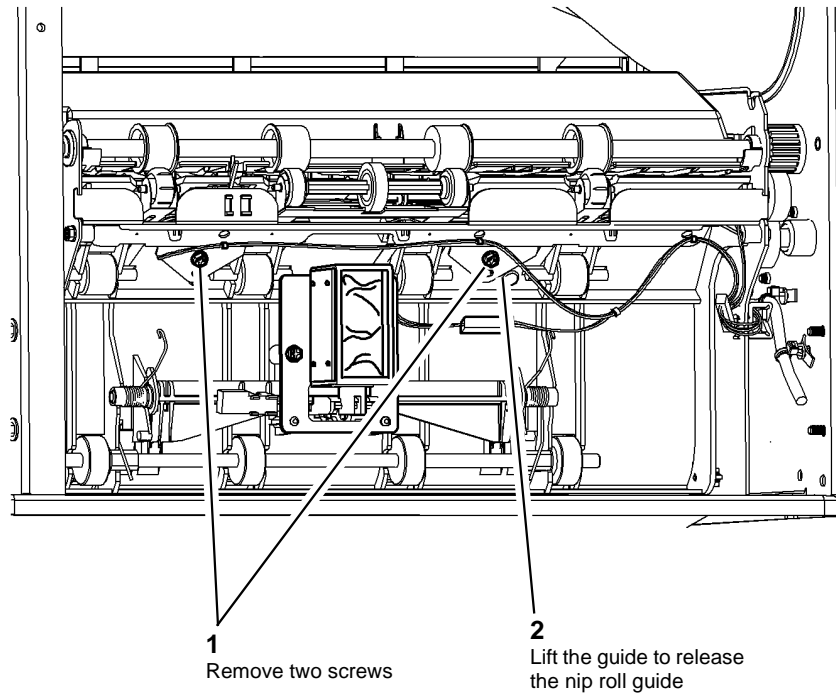

Figure 2 Release the nip roll guide
4. Release the nip roll guide, Figure 2.